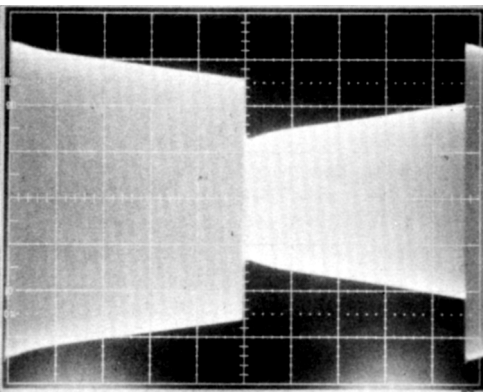
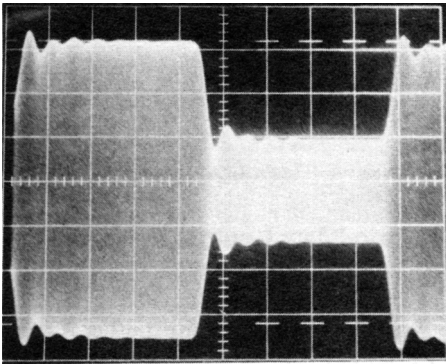
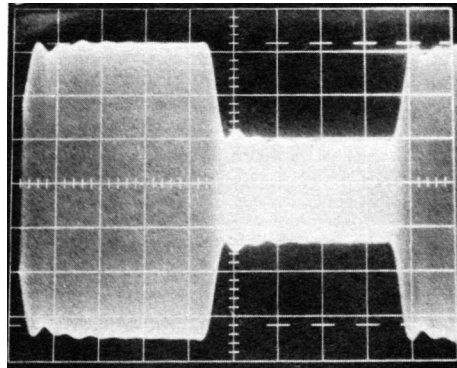

Figure 2-8: Unequalized RF envelope (showing tilt)
Figure 2-10: Unequalized RF envelope (showing ringing)
Figure 2-11: RF envelope showing successful HF equalization
Figure 2-8 on page 2-29 shows what tilt looks like and Figure 2-10 on page 2-31 shows ringing.
Many transmitters (particularly older designs) will produce an RF envelope resembling *Figure 2-8*. If the oscilloscope display looks like this, continue to step (I).
Adjusting the HF DELAY control like this usually reduces the level of the ringing to below the flattop modulation level. Reducing the setting of the HF FREQ control until the ringing is again at the flattop modulation level will unbalance the ringing at the leading and trailing edge of the square wave, and necessitate further adjustment of the HF DELAY control. Alternate between these two interactive controls until the peaks of ringing at both the leading and trailing edges of the square wave are at the flattop modulation level. *Figure 2-10* illustrates a typical waveform before adjustment and *Figure 2-11* shows the result of a successful adjustment. The waveform produced by your system may look quite different.